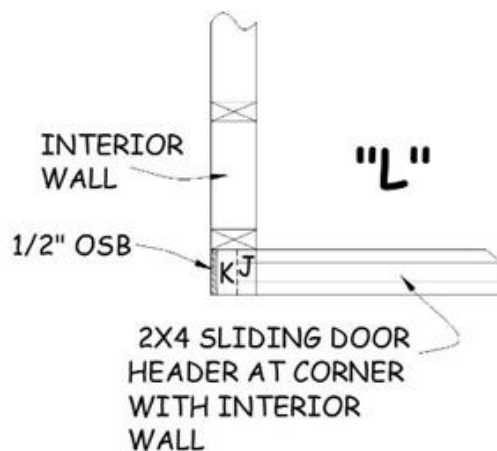

Figure 3-10. Interior L-Corner in Flush Sliding Door.
4. Referring to the House Plan, check for flush sliding closet walls that end at an inside corner of the closet (typically adjoining the 25” closet end wall). Similar to a plumbing wall, lay out the end of the flush sliding wall with a 3½” sandwich of Jack stud, King stud, and ½” of OSB (see Figure 3-10).